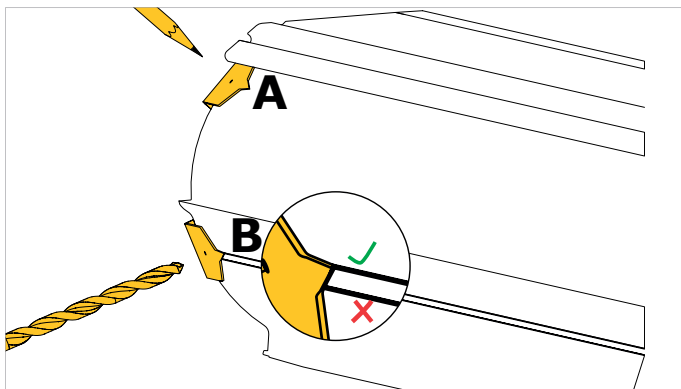

Fig. 5.3.1 Drill template on STR
- With the use of the drill template drill to mark and drill two 9 mm holes on each side of the rail. For hole A, place the drill template as high up in the groove as you can. For hole B, place the tip of the drill plate in the top groove. Refer to fig. 5.3.1.